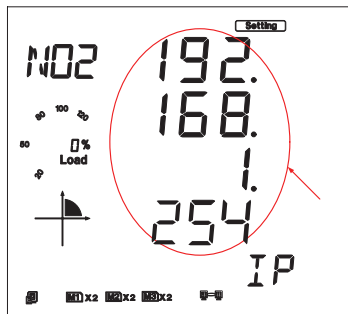

Fig 5-30
4. Set IP Address in the second setting page, such as 192.168.1.254 as shown below. Press the "V/A" key to go to the IP setting page. Users may set the parameters in the area pointed out in Figure 5-30. The cursor starts at the first digit. After setting the IP address press the "V/A" key to accept. Press the "P" key again to go to the third setting page for Subnet Mask.